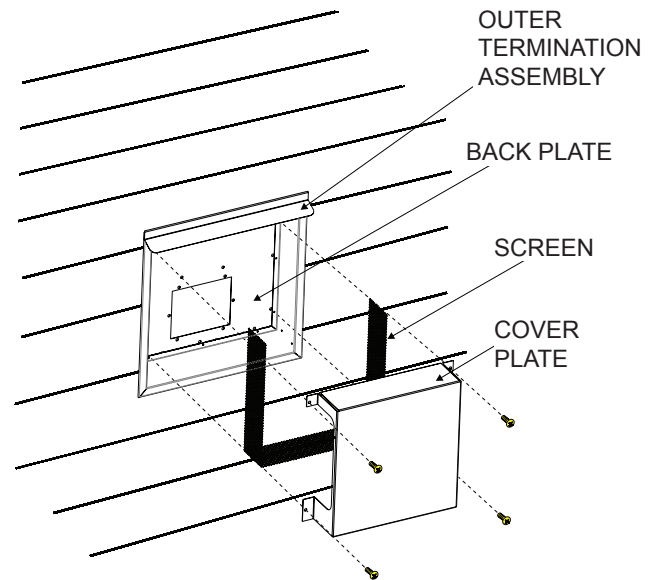

Figure 22
27. To install the Outer Cover and Screen, place the "U" shaped screen inside the Outer Cover, then place the Outer Cover into the Outer Termination frame. Using (4) # 10 X ½" screws, secure the Outer Cover to complete the installation. **See Figure 22.**